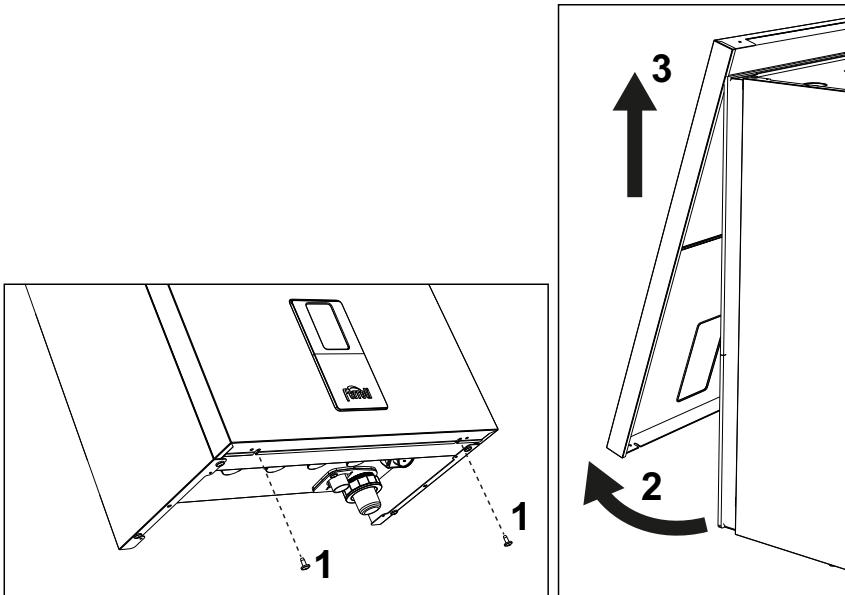

fig. 41- Front panel opening
1. Undo the screws "1" (see fig. 41).